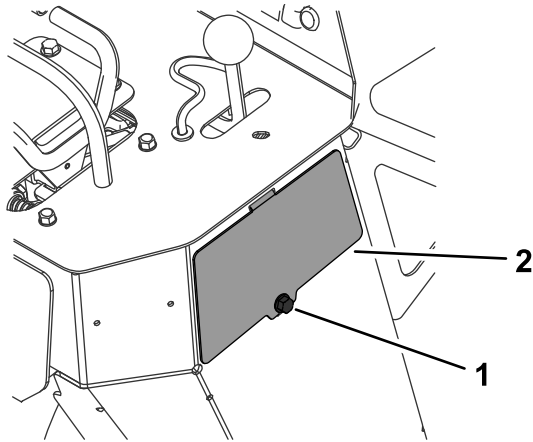

Figure 53
3. Remove the bolt and access panel on the right side of the machine (Figure 53).
5. Install the access panel and secure it with the bolt (Figure 53).